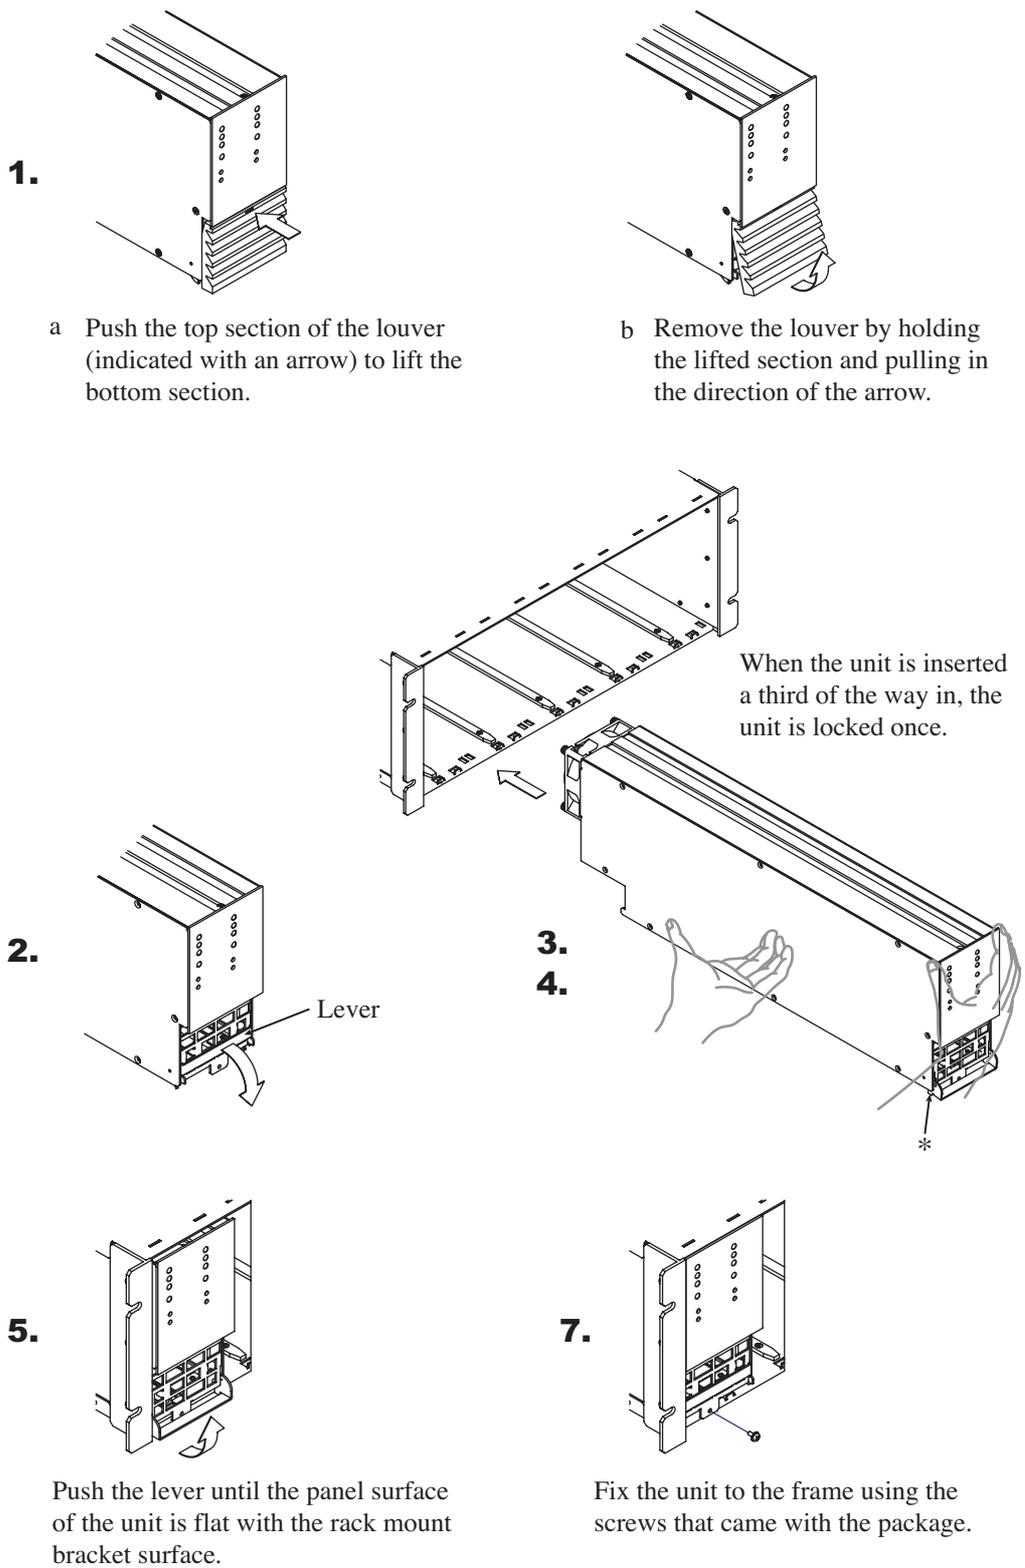

Fig. 1-3 Installing the Charge/Discharge Power Supply Unit (PFX2011 Example)
1. Remove the louver. See Fig. 1-3.
3. Carry the charge/discharge power supply unit with both hands as shown in Fig. 1-3, and slowly insert the unit into the desired slot.
The lock is released. Insert the unit until the lever you pulled forward (the section marked with an asterisk in Fig. 1-3) touches the unit frame.